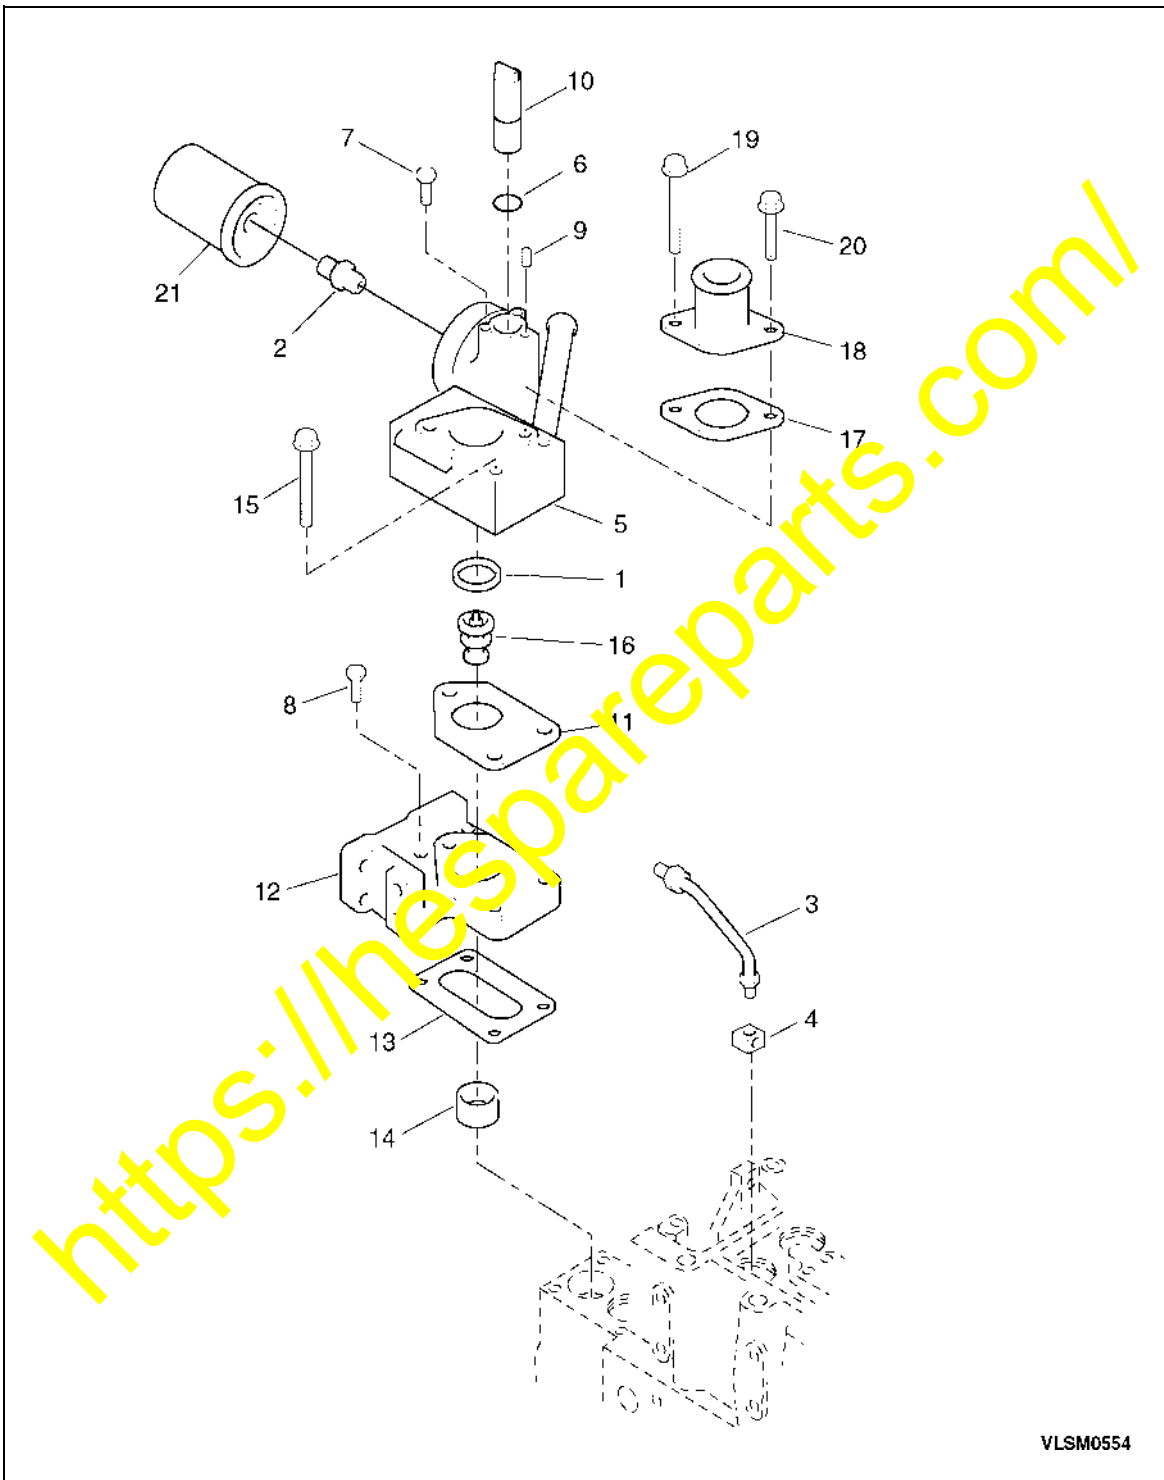

Figure 2 New Thermostat Housing
- As shown in Figure 2, install new thermostat components.